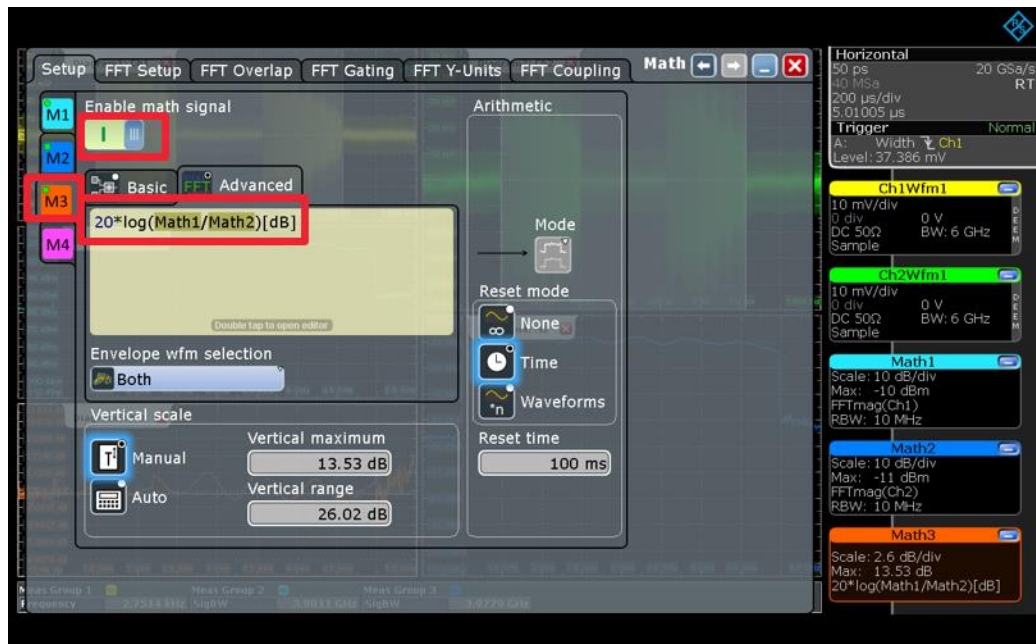

Fig. 3-6: Formula for the amplitude difference of RX 1 and RX 2
- Create the formula³ (amplitude difference RX 1 – RX 2) with the *Formula Editor* under the *Advanced* tab as shown in Fig. 3-6 .